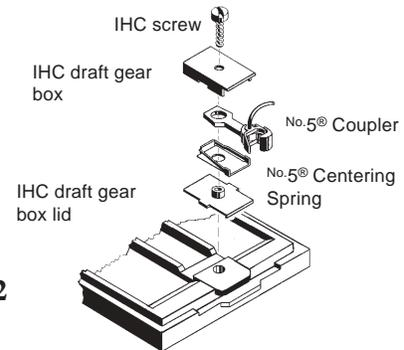

Fig.2
9. Place the No.5® spring and coupler on the post of the IHC lid and reassemble the box. See Fig.2. Be sure Centering Spring is not caught between lid and box.